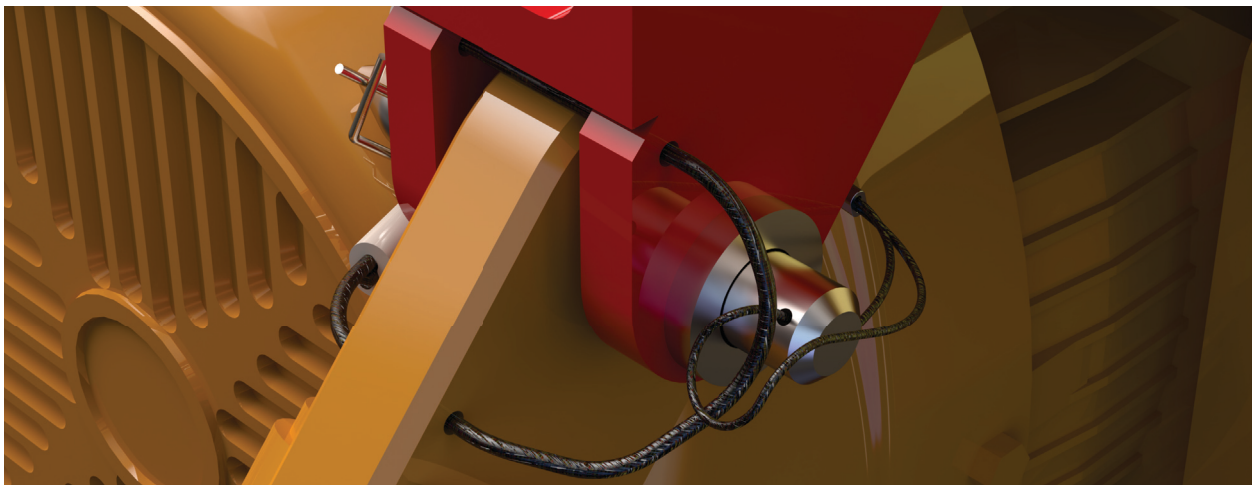

Figure 5: Aligning the blower support arm
- After verifying the two conditions specified in Step 1, attach the main body of the arm to the blower motor mount pad eye using the blower support arm pin, as shown in Figure 5.